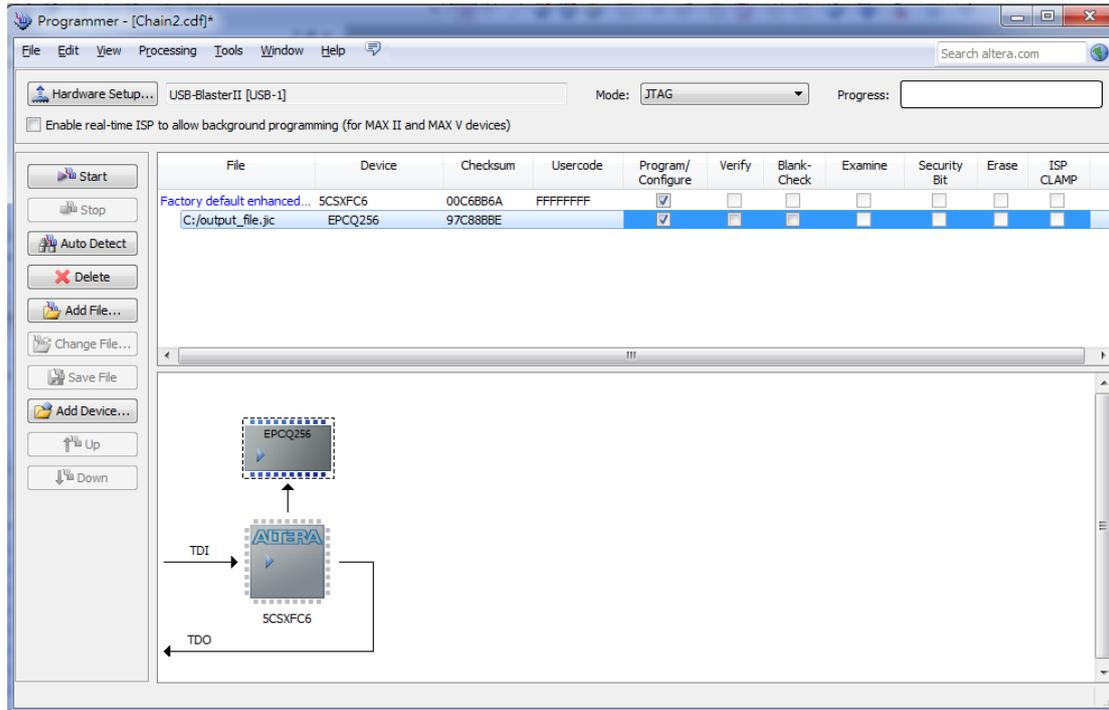

Figure 6-6. Quartus II programmer window with one JIC file
2. Program the serial configuration device by checking the corresponding **Program/Configure** box, a factory default SFL image will be loaded (See **Figure 6-6**).